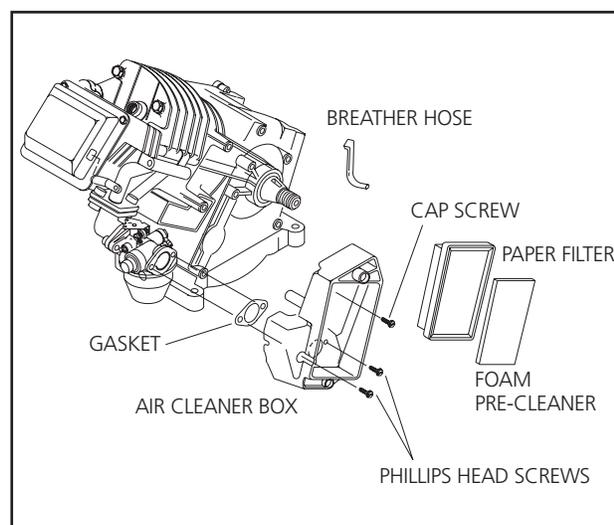

Figure 2.2 — Removal of Air Cleaner Box, Primer Style Carburetor
If the air cleaner box must be removed for further engine disassembly, do the following (see Figure 2.2):
1. Using a new gasket, place the air cleaner box on the carburetor, line up the holes and install the two phillips head screws (see Figure 2.2). If reinstalling the air cleaner box with a choke style carburetor, line up the holes of the carburetor and air cleaner box with the holes on the intake manifold before installing the phillips head screws (see Figure 2.3). Refer to "Torque Specifications" on page 59 for proper torque.